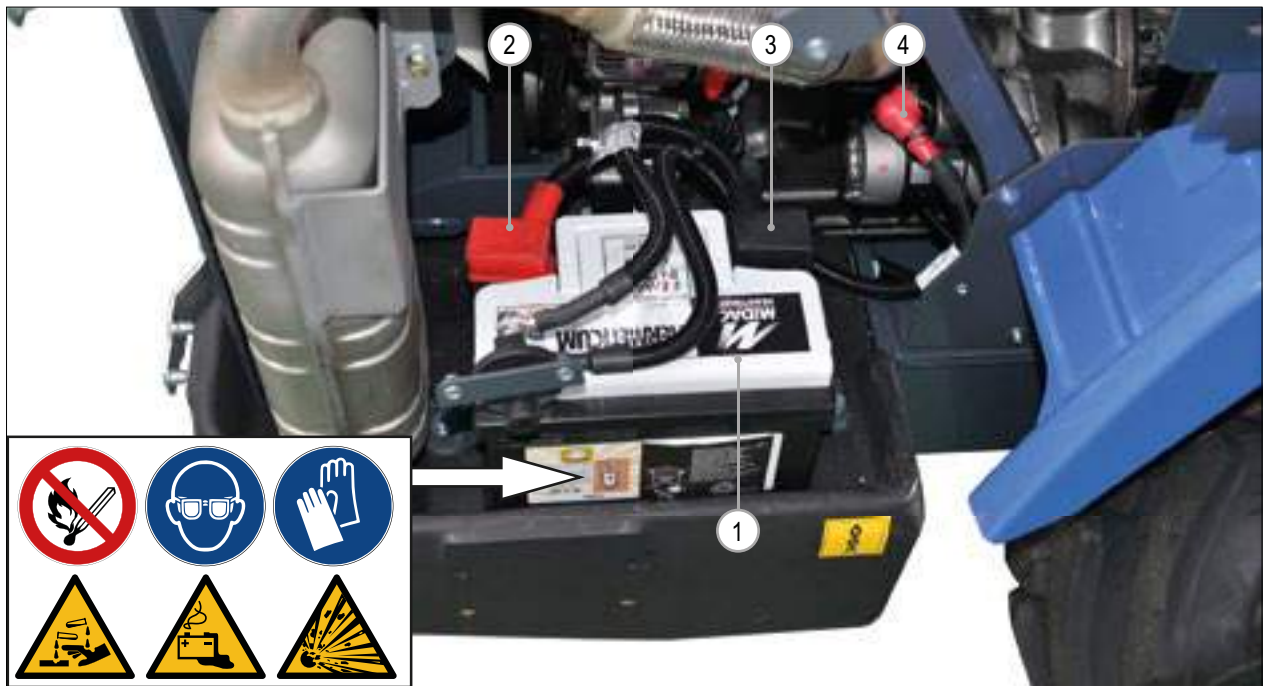

FIG. 37
- The battery (**FIG. 37 - Ref. 1**) is intact and not leaking.
- Check power cable connections (**FIG. 37 - Ref. 2 - 3**) for signs of leaking, corrosion, or damage.